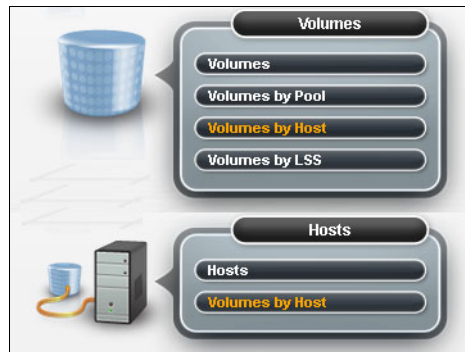

Figure 11-62 Volumes by Host from the Volumes menu or the Hosts menu
1. From the Storage Management GUI system page, select **Volumes by Host** from either the **Volumes** icon or the **Hosts** icon, as shown in Figure 11-62.